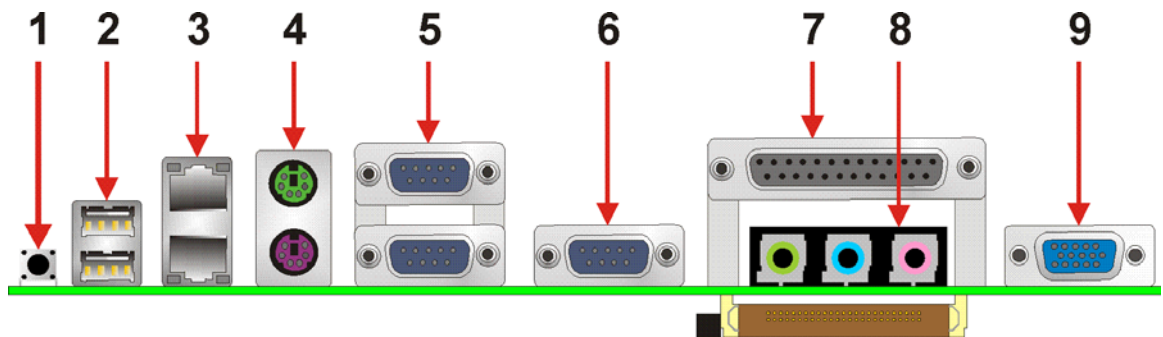

Figure 3-23: POS-8520 Motherboard External Peripheral Connector Panel
Figure 3-23 shows the POS-8520 Motherboard external peripheral connector panel. The peripheral connectors on the panel can be connected to devices externally when the motherboard is installed in a chassis. The external peripheral connectors are:
- CN Location: See **Figure 3-23** (labeled 1)
- CN Location: See Figure 3-23 (labeled 2)
- CN Location: See **Figure 3-23** (labeled 3)
- CN Location: See **Figure 3-23** (labeled 4)
CN Location: See **Figure 3-23** (labeled 5 and 6)